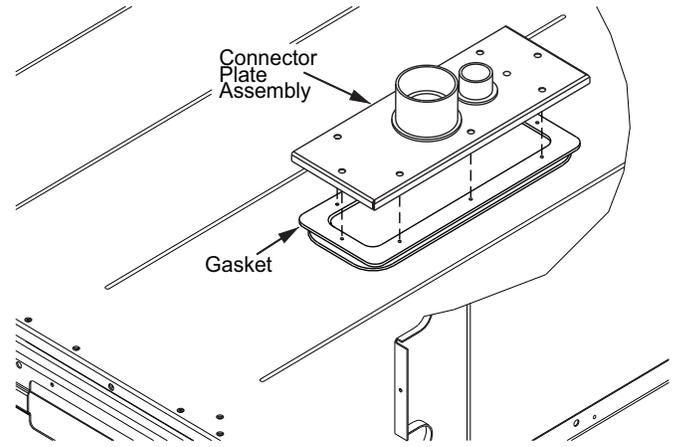

Fig. 50 — Installing Thru-the-Base Option — 50WE*H08/12 Units
3. Place the gasket over the embossed area in the basepan, aligning the holes in the gasket to the holes in the basepan. (See Fig. 50.)